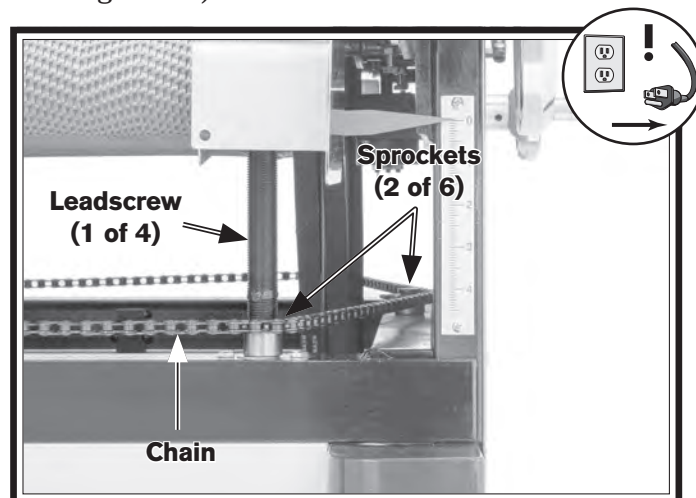

Figure 35. Location of leadscrew, chain, and sprockets.
2. Raise table as far as it will go, as shown in Figure 35).